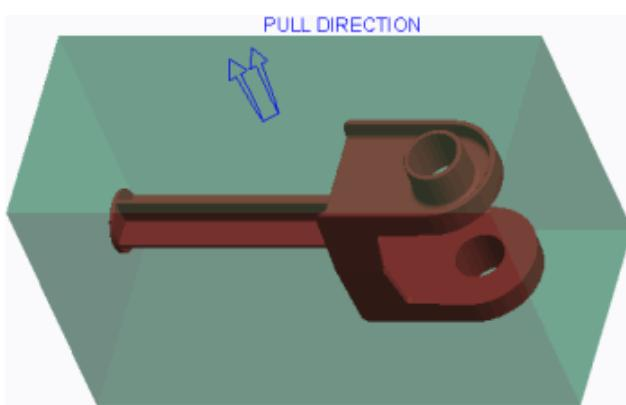

Figure 2 – Standard Rectangular Workpiece
- Standard Rectangular – This creates a rectangular workpiece using **Create Rectangular Workpiece** , which is shown in Figure 2.